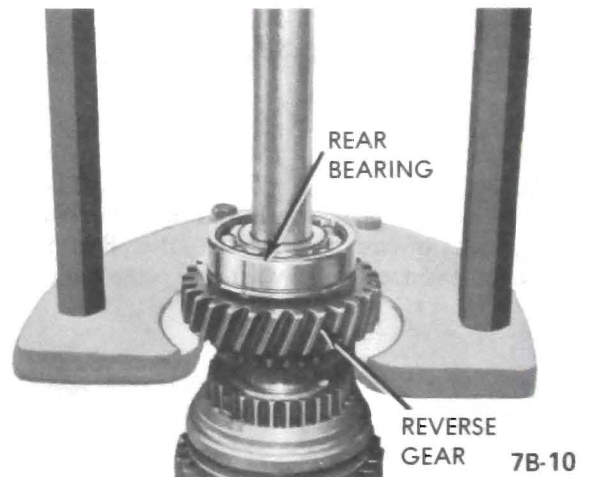

Figure 7B-10 - Removing Rear Bearing
5. Remove first speed synchronizer snap ring. See Figure 7B-12.